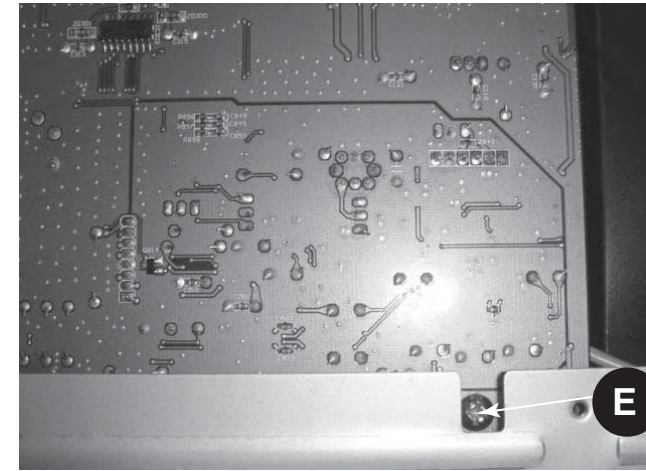

Figure 5
- 1) Release 1 screw "E" at the side of main board as figure 5.